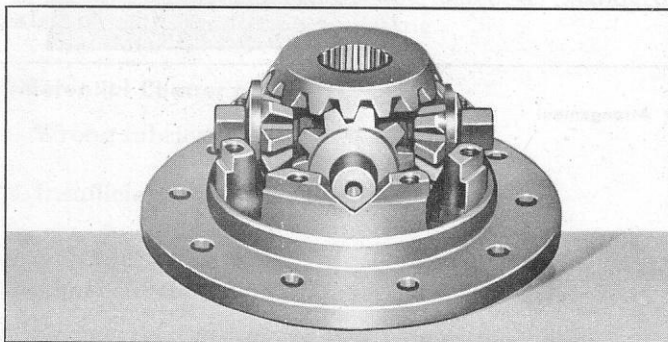

Fig. 41—Pinion and Side Gear Installation
4. Install remaining shaft and gears over the first with the center notch down, as shown in Fig. 41.